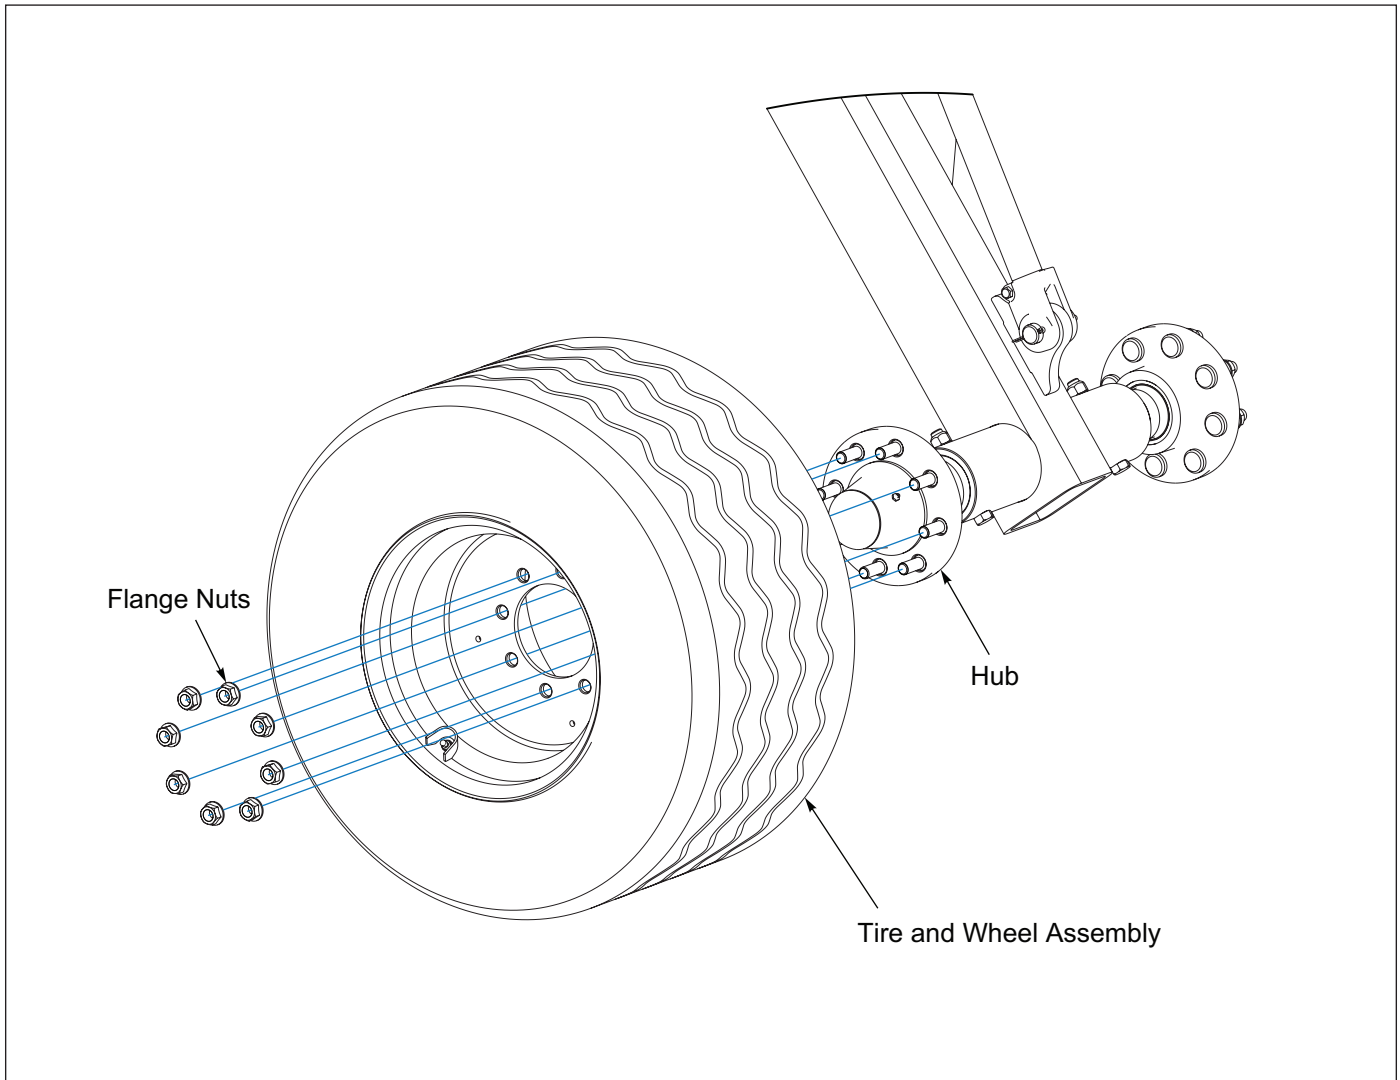

Figure 2-7: Tire and Wheel Assembly
1. Remove the eight 3/4-16 Flange Nuts from the Hub. Install the Tire and Wheel Assembly onto the hub. The Pulvi-Mulcher uses 480/45R17 tires and should be inflated to 73 PSI. **See Figure 2-7.**